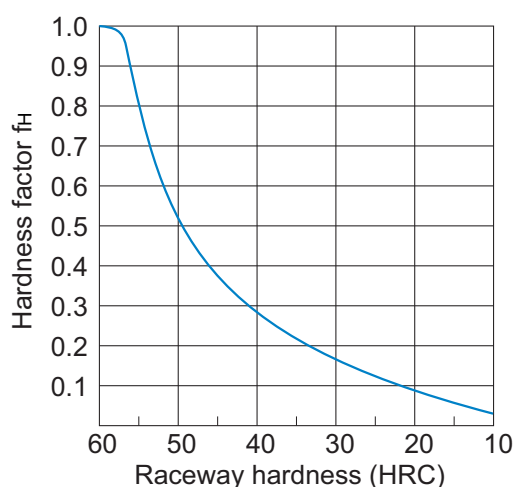

Fig.2 Hardness Factor ( $f_H$ )
- $f_H$  : Hardness factor (see Fig.2 on A-557)